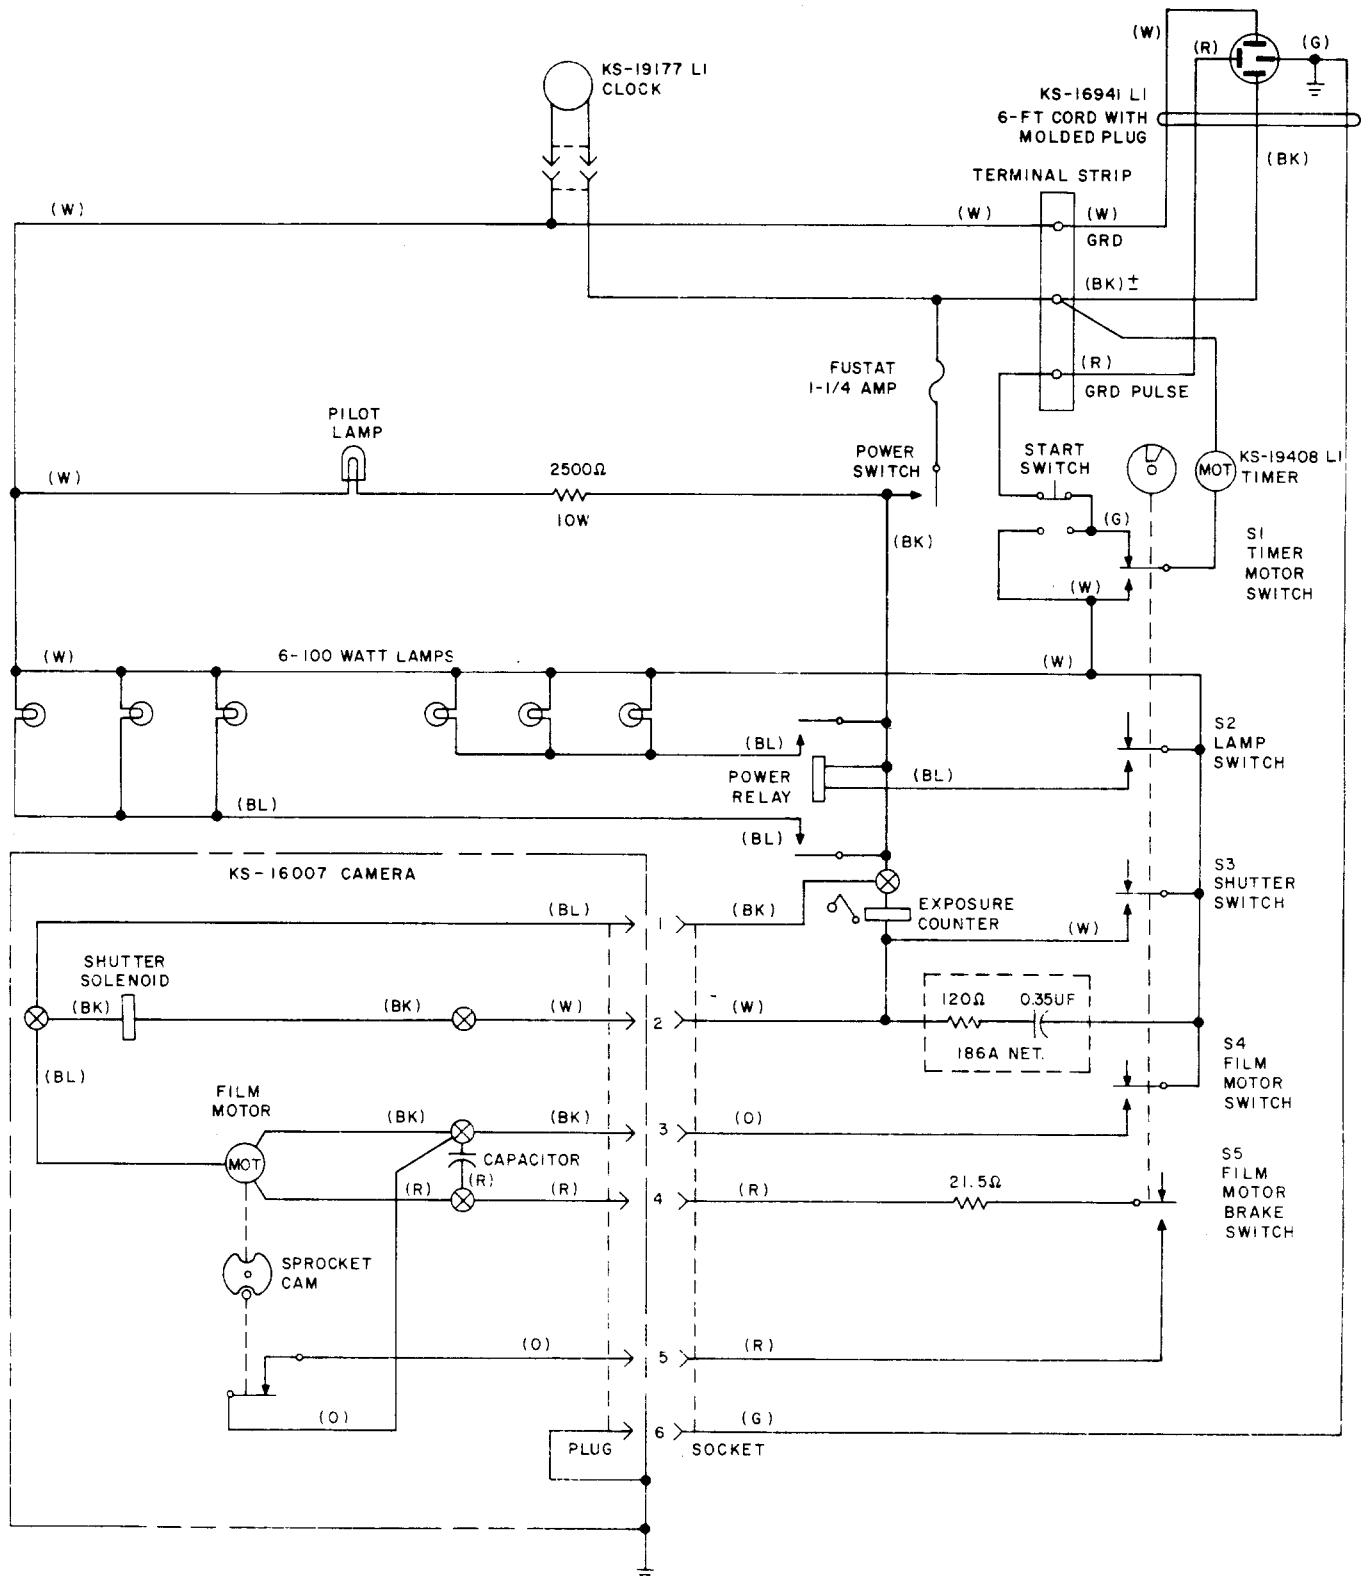

Fig. 12—KS-14776 Camera—Circuit Schematic
- (1) Failure to meet this requirement may be due to one or more of the following conditions:
Procedures for correcting each of these conditions are covered below in (2) through (8). Reference should be made to 4.01 and Fig. 12 in connection with these procedures.
- (2) **Failure of the Pilot Lamp to Light:** Check the Fustat and the lamp and replace if defective. If the Fustat and lamp are satisfactory, remove the chassis as covered in 3.002. Check the wiring and the resistor in series with the lamp. If the resistor is defective, replace it.
- (3) **Failure of the Timer Motor to Start:** Remove the chassis as covered in 3.002. Check the wiring, the START switch, and the timer motor switch. (See **Note**.) Check requirement 2.12 covering the timer motor switch. If the wiring and switches are satisfactory and requirement 2.12 is met, the timer motor is defective. Make adjustments and replace parts and/or motor as required. (Also see 1.11.)
(1) Figure 12 shows a schematic of the circuit of the KS-14776 camera. As shown in the figure, the circuit terminates in a 4-conductor cord. Two conductors of this cord are connected to the 120-volt, 60-cycle power supply. The third conductor carries a 3-second ground pulse which is sent out from the control panel when a photograph of the registers is to be taken. The fourth conductor provides a safety ground.
(2) Referring to Fig. 12, the following outline indicates the sequence of operation of the various parts of the camera after the cycle is started by the ground pulse. One cycle is completed in 5 seconds.